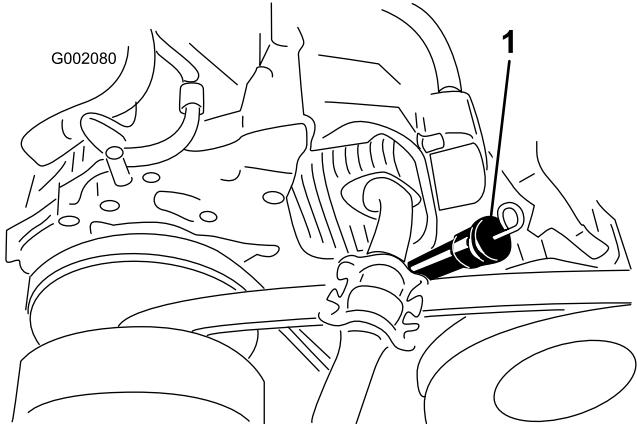
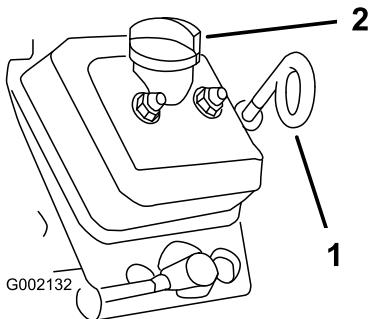

Figure 15
Figure 16
- **Models 07266TC and 07279**—the oil dipstick and fill spout (Figure 15).
- Models **07273** and **07273TC**—the oil dipstick and fill cap (Figure 16).
4. Remove the oil dipstick and wipe the end clean (Figure 15 and Figure 16).
5. Slide the oil dipstick into the filler tube fully seating it (Figure 15 and Figure 16). Pull the dipstick out and look at the end.
6. Install the oil dipstick and firmly seat it (Figure 15 and Figure 16).